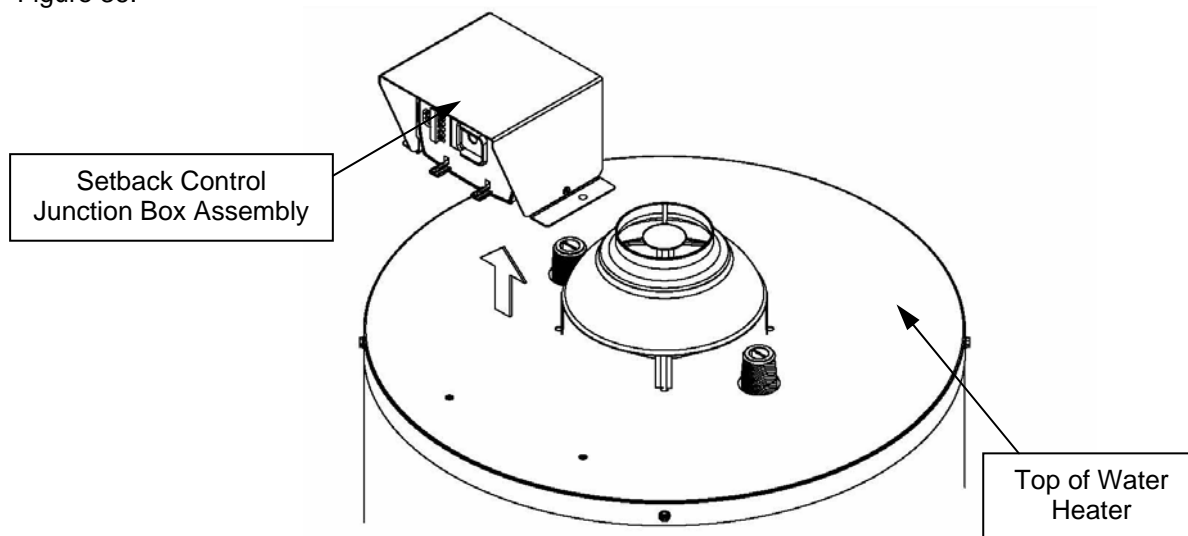

Figure 36
Step 9: Remove the Setback Control Junction Box Assembly from the top of the water heater, as shown in Figure 36.